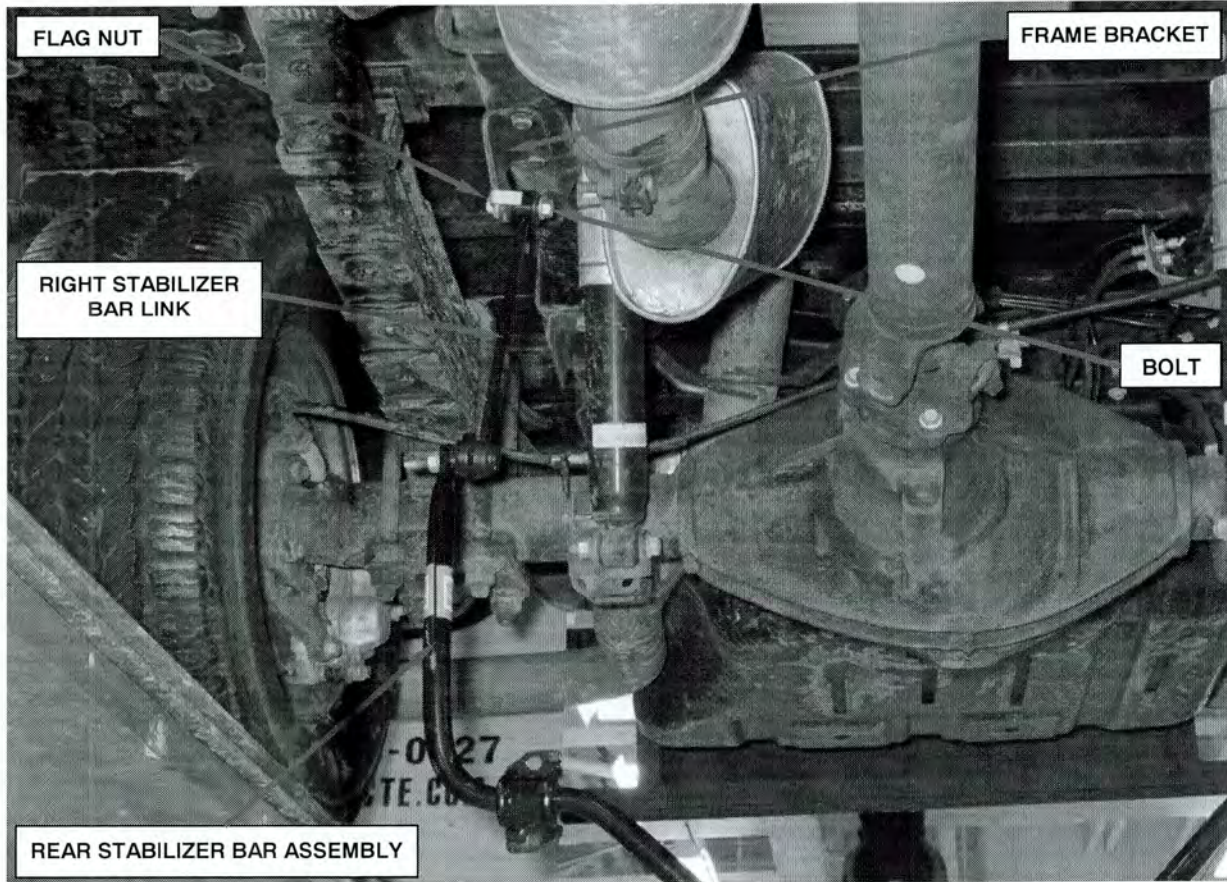

Figure 3 – Right Stabilizer Bar Link
4. Attach the right stabilizer bar link to the frame bracket using a bolt and flag nut (Figure 3).